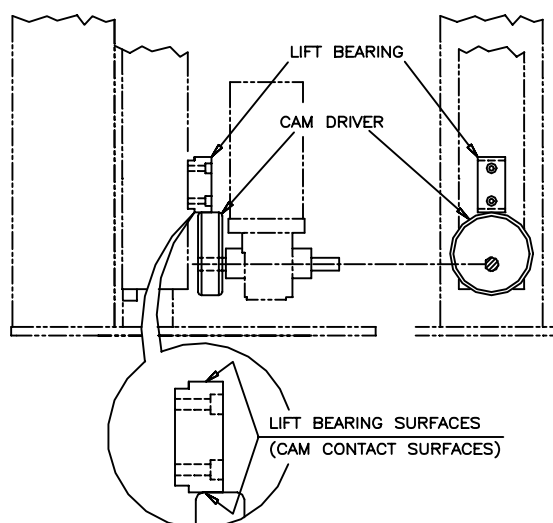

Figure 6-3: Lifting Bearing to Cam Relationship
- 7 The Lifting Bearing is designed symmetrically, with a lip on the top as well as on the bottom and the mounting holes the proper distance from the edge of this lip. If one end of the bearing is worn away, flipping this bearing upside down will provide adequate lifting performance. If both ends have been badly worn a new bearing must be installed. Refer to Figure 6-3.